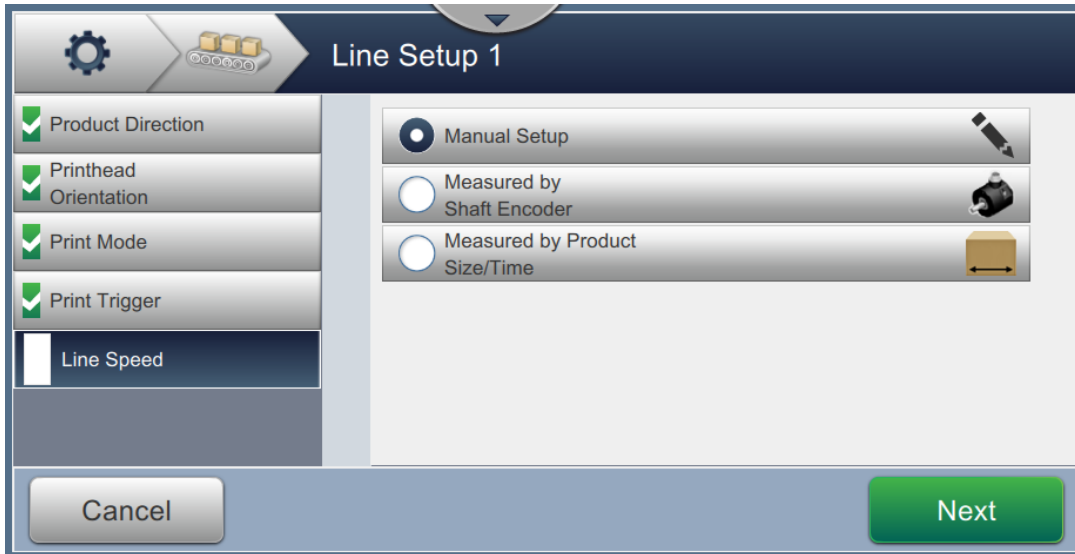

Figure 6-34: Line Setup - Line Speed
1. Touch the *Line Speed* in the Line Setup Setting screen, select the required line speed as shown in Figure 6-34. Touch the  button to set the line speed.
1. Select the *Manual Setup* as shown in Figure 6-34. Touch the  button to enter the required settings.
1. Select the *Measured by Shaft Encoder* as shown in Figure 6-34. Touch the **Next** button to enter the required settings.
1. Touch the *Measured by Product Size/Time* as shown in Figure 6-34. Touch the  button to enter the required settings.